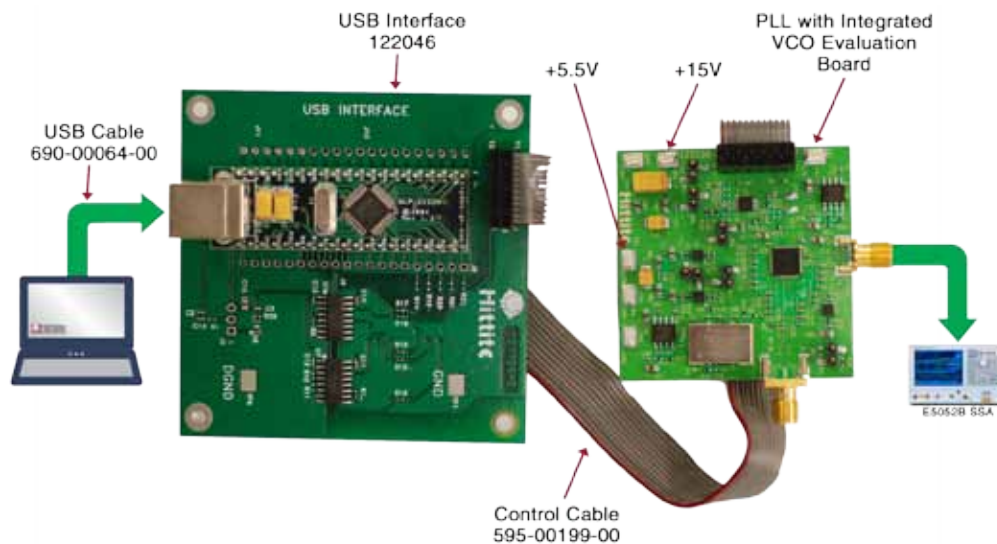

Figure 1. Typical Setup of PLL with Integrated VCO Evaluation Board
The evaluation board of Hittite fractional PLL with integrated VCO should be set up as shown in the Figure 1. It should be noted that very low noise PLL with Integrated VCOs are sensitive to noisy power supplies. The evaluation board provides on-board regulators to isolate the +5.5V supply from the PLL analog and digital +3.3V supplies, the PLL Charge Pump +5V supply and the VCO +5V supply. The VCXO is also regulated separately to +3.3V from the +5.5V external supply.
- Step 2.** Setup the evaluation board as shown in Figure 1.